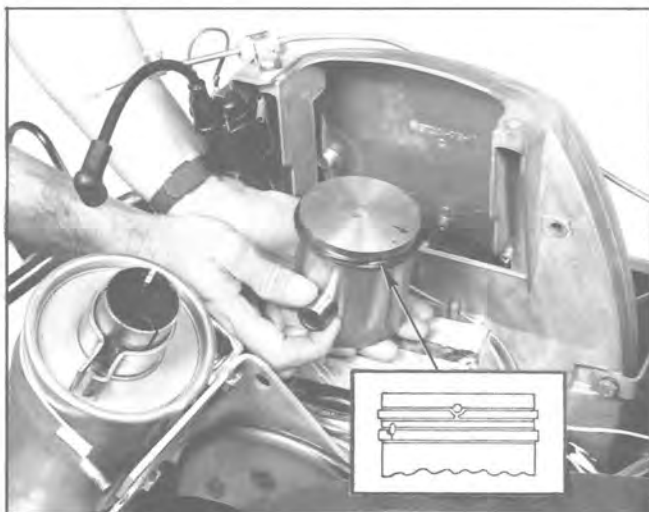

Fig. 17 — Removing / Installing Piston Pin
- e. Remove the piston pin retaining snap ring at the "pulley side" of the piston, then remove piston pin as shown in Fig. 17.
- j. Position the piston over rod and insert piston pin as shown in Fig. 17. Install snap ring retainers to secure the piston pin. (Snap ring nearest the flywheel is more easily installed before the piston is connected to the rod.)
- m. Make certain that piston rings are positioned as shown in the insets in Figs. 17 and 20. Use a suitable metal band to compress the rings and carefully guide cylinder assembly over the piston and into place against the crankcase. Ignition wires are to be below the cylinder's cooling fins.